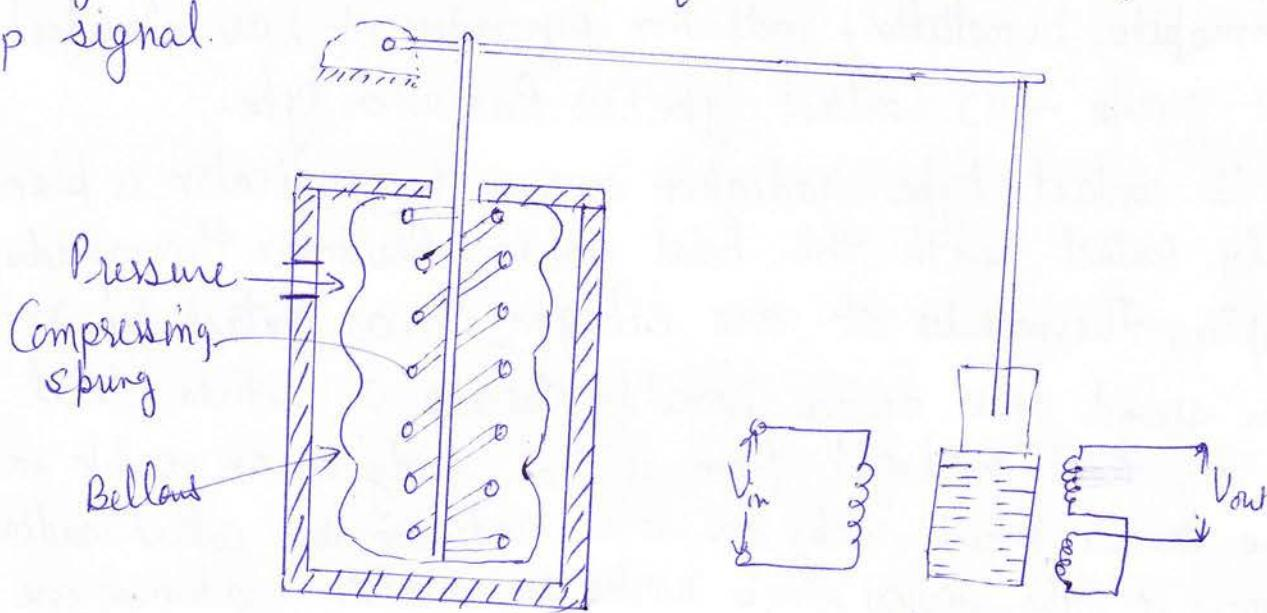

Fig. 2-6 Measurement of Pressure with an LVDT
2. In 2nd scheme, bellows are connected with an LVDT & Fig. 2-6 shows how a bellows could be linked to an LVDT for measurement of pressure. The pressure under measurement is applied to the outside of a bellows forcing it to contact against the push of a compressing spring. As it moves, it actuates a mechanical linkage which moves the core of an LVDT to furnish an electrical o/p signal.